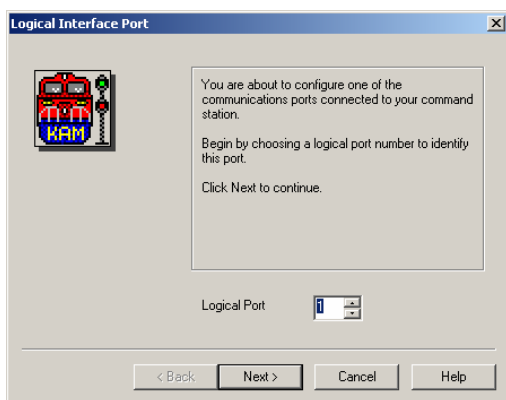

Figure 3: Port selection screen
- Click the "Interface Wizard" button in the Train Server Manager application. This wizard will guide you through configuring your command station. (See Figure 3)
Below are descriptions for additional features support by Train Server Manager. (See Figure 3)